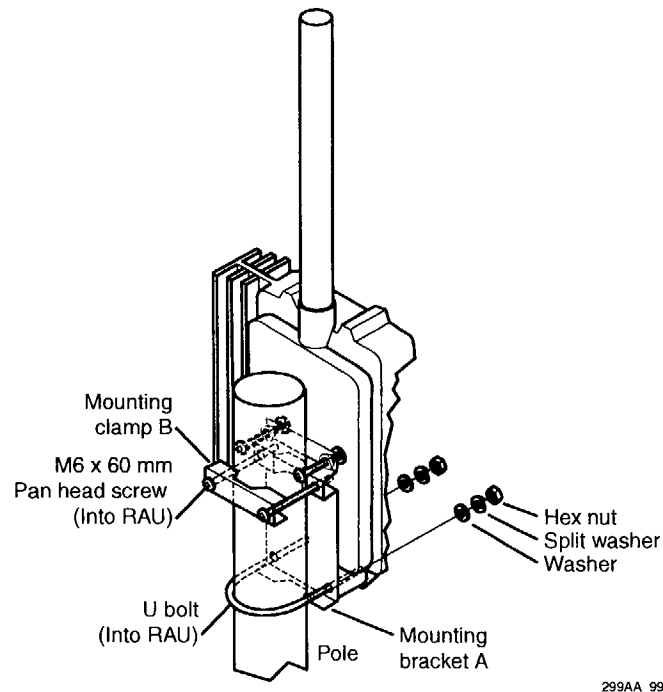

Figure 15. Attach the RAU to the pole
The installation kit contains the appropriate connectors for mounting the RAU to a pole ranging in size from 1.50 inch (3.8 cm) OD through 1.90 inch (4.8 cm) OD. To install the RAU on a pole, you will need the U bolt, assorted screws, and the metal mount (2 pieces). Figure 15 shows a typical pole connection.
1. Take the larger piece of the mount (Mounting bracket A on Figure 15) and use the short M6 screws to attach it directly to the RAU, using the holes provided on the back of the RAU.
Washers are provided for the screws. Place the split lock washer next to the screw head followed by the flat washer before inserting the screws. Tighten the M6 x 16 mm screws to 300 +/- 30 N-cm (26.6 +/- 2.7 In lb). Using Figure 15 as a placement guide, be sure that the large oval holes on the mounting pieces and the RAU are lined up.
2. Washers are provided for the screws. Place the split lock washer next to the screw head followed by the flat washer before inserting the screws. Using the smaller piece of mount (mounting clamp B on Figure 15), thread the two long M6 screws through it. As shown in Figure 15, connect the mounting clamp B with mounting bracket A using the long M6 screws to connect the two pieces. Note that the nuts for the long M6 screws are already included as part of mounting bracket A. Do
3. Fit the U bolt through the oval holes in the mounting bracket A, then push the U bolt through the RAU until the threaded ends appear at the bottom front of the RAU. Place the large flat washers, the large split washers, then the hex nuts on the ends of the U bolt with stack-up shown in Figure 15.
2. Attach mounting bracket A to the RAU and attach the wall mounting bar using the same screws, as shown in Figure 15. A detail of the mounting bar is shown in Figure 6.